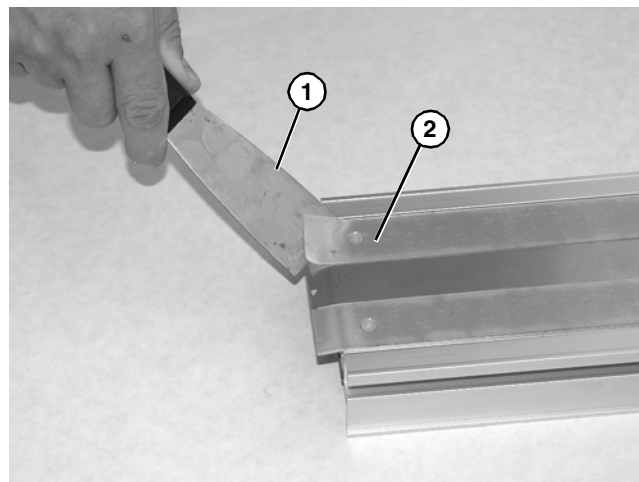

Figure 70
2. With a putty knife (Figure 70, item 1), start by raising edge of wear strip (Figure 70, item 2).